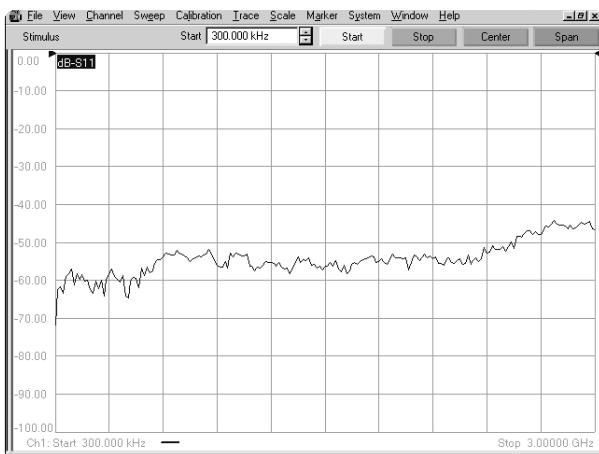

Figure 11. Measurement of load standard after calibration
2. Connect a load calibration standard to port 1. The magnitude of S11 should be less than the specified calibrated directivity of the analyzer (typically less than -30 dB) (figure 11).